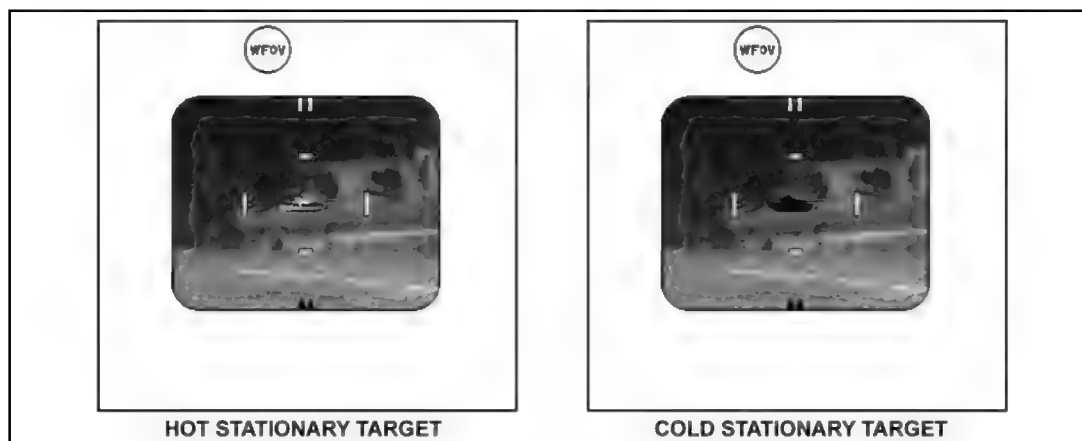

Figure 4-23. Stationary targets.
(1) **Rapid Scan.** The rapid scan method is used to detect obvious signs of enemy activity. This type of scan is used when first occupying a fighting position. (Figure 4-23). The gunner:
(a) **Hot, stationary targets.** Tanks, armored personnel carriers (APCs) and other vehicles either remain running for long periods of time or are started to keep their batteries from running low and to keep their electronics operational. These targets have a hot signature when compared to its surroundings. The gunner easily detects these targets when using the CLU (Figure 4-23).